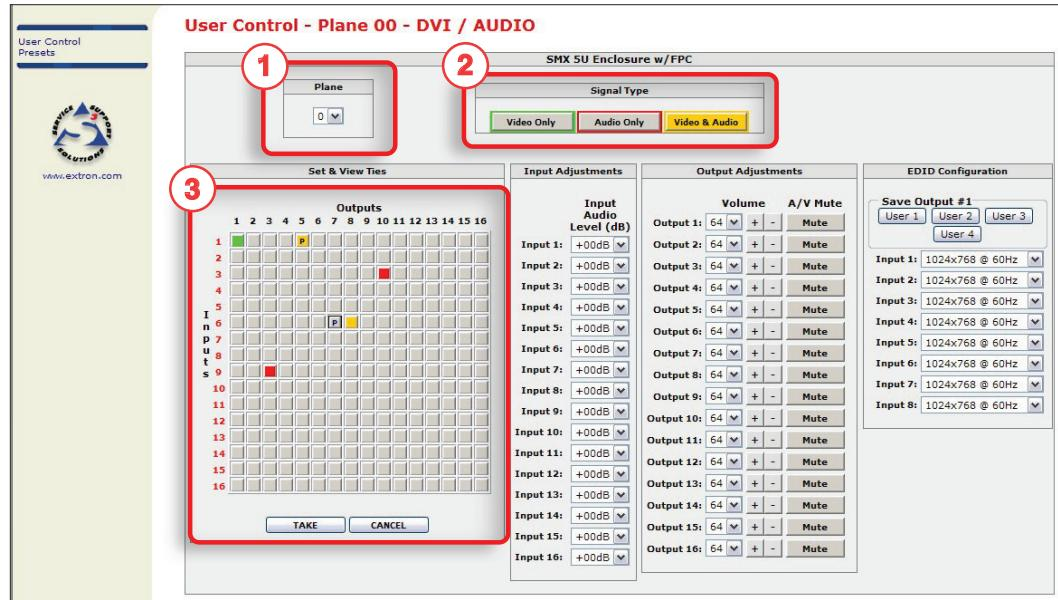

Figure 58. Control Pages — User Control Page
The User Control page emulates some of the front panel features and displays the current input-to-output ties, input audio level, output volume, A/V mute status, and current EDID settings (see **figure 58**). See **Operation** on page 13 for additional descriptions.
1. Select the desired plane from the drop-down list (see **figure 58**).
NOTE: When viewing the ties on the User Control page, video ties are shown green, audio ties are red, and video and audio ties amber (see **figure 58**).
3. Click the desired input or output button in the Set & View Ties map. The button changes color according to signal type and indicates a provisional tie with a letter "P" (see **figure 58**, input 6, output 7, for example).
3. Click the input or output button of the tie to be removed. The button changes color and indicates a provisional tie with a letter "P" (see **figure 58**).
- If a single signal tie (video or audio) is removed, or there is a combined signal (the Video & Audio signal type button is highlighted), the Video Only or Audio Only button turns gray (see figure 58, input 6, output 7).
1. In the Signal Type field (see ②, figure 58), click **Video only**, **Audio only**, or **Video & Audio**, depending on the signal type to be muted.